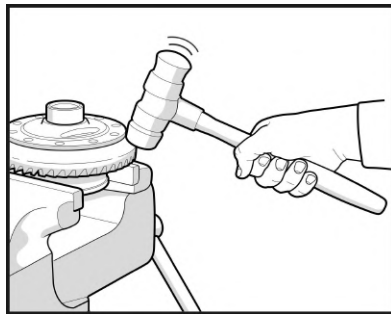

Fig. 13
2.2 Drive the ring gear off the existing differential case using a plastic-, rubber-, or copper-faced hammer. To prevent binding, work evenly around the circumference. (**Fig. 13**)